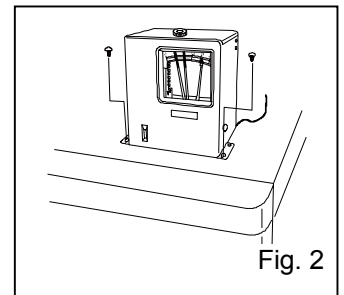

Fig. 2
2. Remove the screws at the right corner on the top of the unit and fix the recorder to the attachment position. (Fig. 2)
2. As shown in the Fig. 2, insert the temperature recorder to the mounting space and fix it to the back side of the cover by using the recorder fixture enclosed with the temperature recorder.